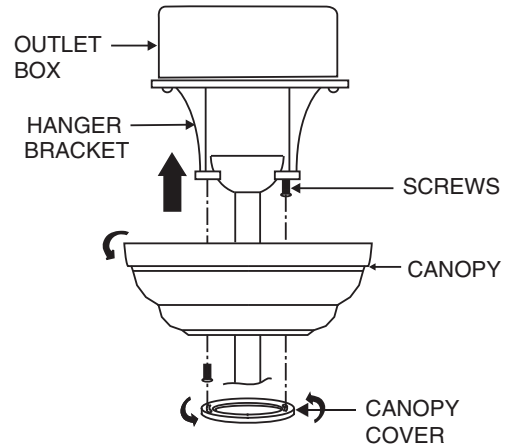

FIGURE 13
2. Slide the canopy up to mounting bracket and place the key hole on the canopy over the screw on the mounting bracket, turn canopy until it locks in place at the narrow section of the key holes. (Fig. 13)